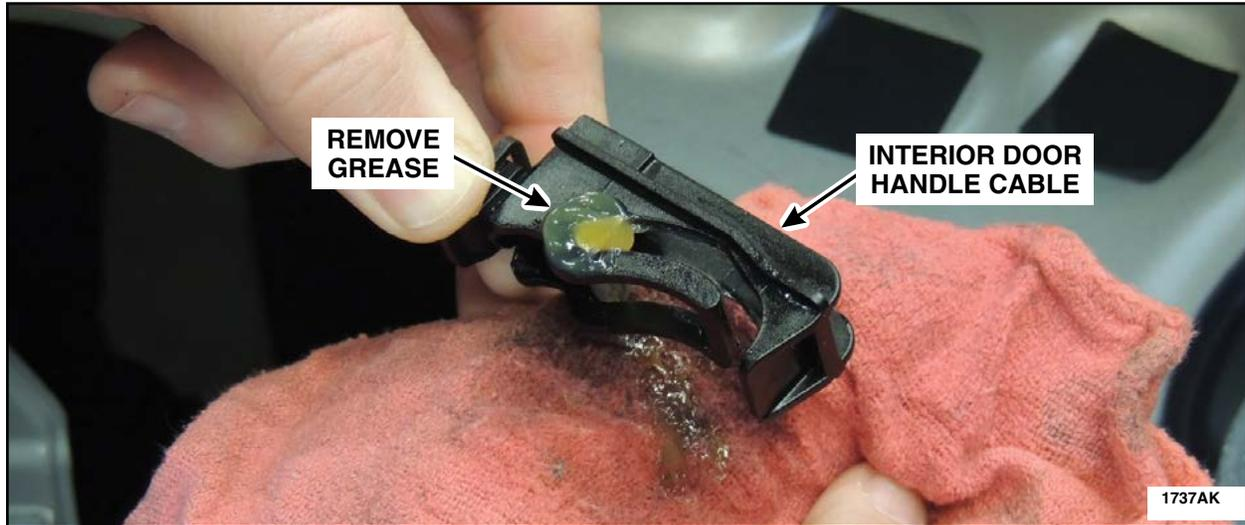

FIGURE 88
13. Using isopropyl alcohol and a clean shop towel, thoroughly remove grease from the interior door handle cable mechanism. See Figure 88.